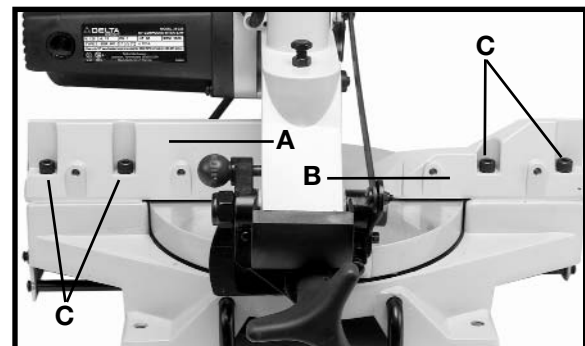

Fig. 23
If either of the fences (A or B) Fig. 23 is removed from the saw, re-adjust it after replacement so that it is 90 degrees to the blade as follows:
2. Place one end of the square (B) Fig. 23 against the fence (A) and the other end against the blade.
3. To adjust, loosen the two screws (C) Fig. 23 and adjust fence 90 degrees to the blade. Tighten the two screws (C).